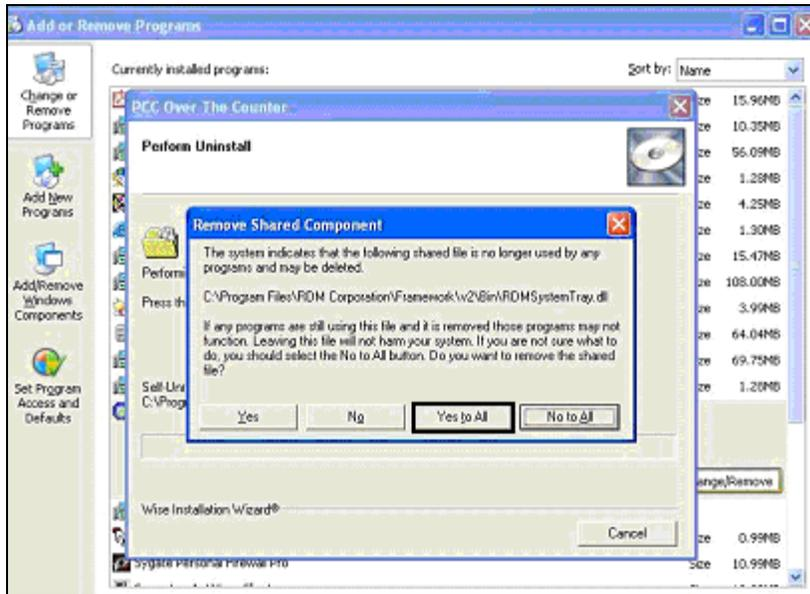

Figure 2.16
4. The uninstall process begins. This may take up to 5 minutes. A prompt may appear asking if you wish to remove a shared component. The uninstall process will notify the user that the file is no longer being used by other programs and may be deleted. Click on **'Yes to All'**. (Figure 2.16)